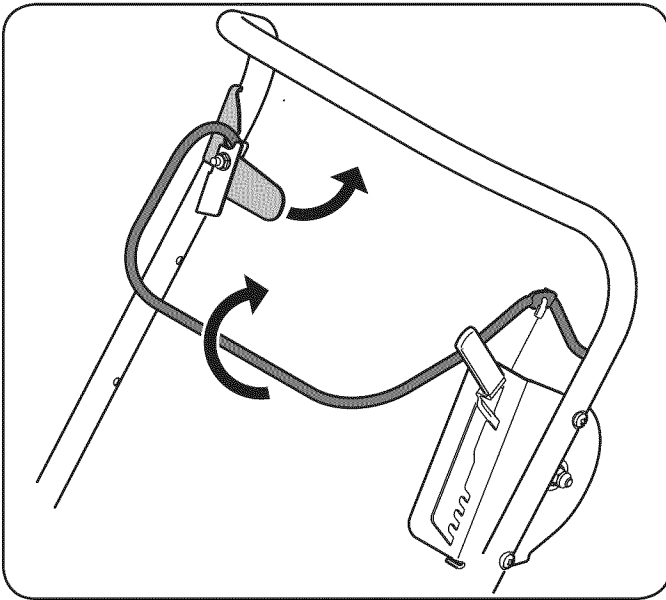

Figure 9
1. Release bail interlock and engage blade control bail to start blades. See Figure 9.